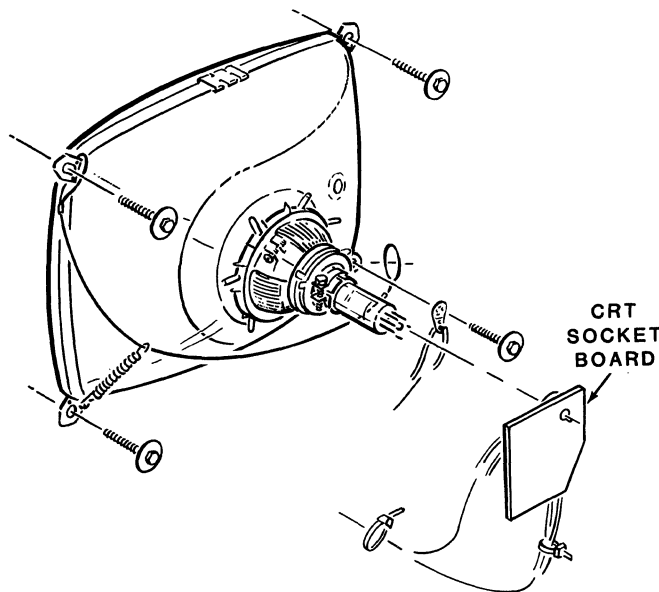

Figure 6.7
- Refer to Figure 6.7 and carefully unplug the CRT socket board from the pins on the neck of the cathode-ray tube.